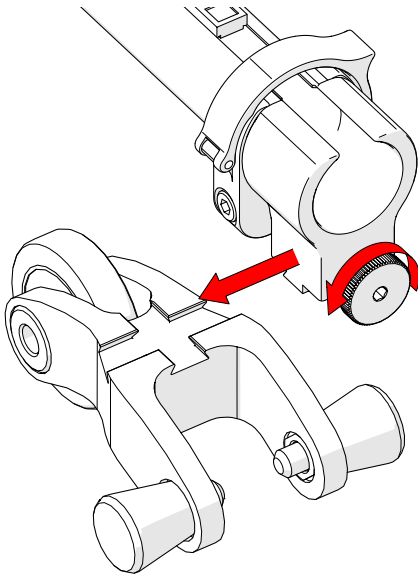

Fig. 71 - Loosen and slide on
1. Loosen the knob on the cable management dovetail mount. Slide the mount onto the dovetail link (Fig. 71).